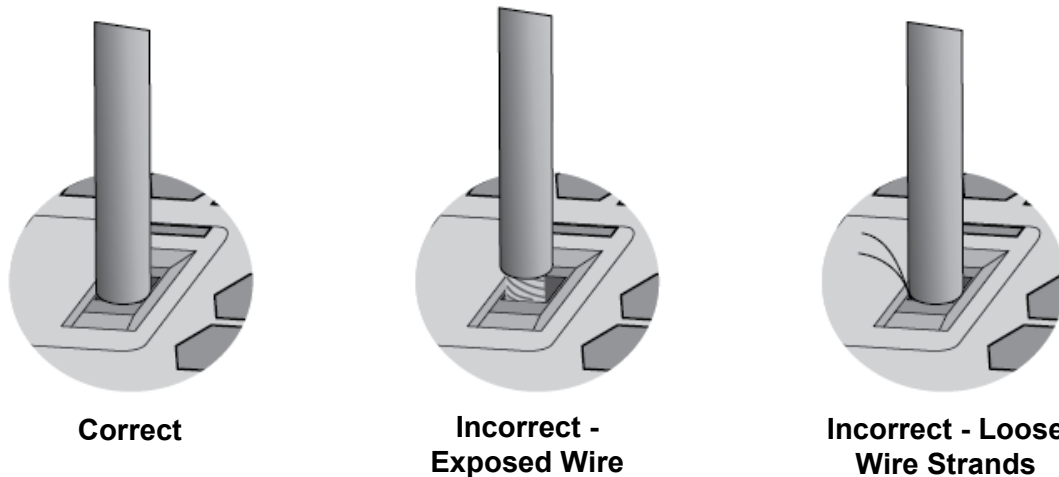

Figure 10. Verifying Wire Installation
- ❑ After installing wires, visually inspect them for exposed wires or loose wire strands. Refer to Figure 10.
4. Visually inspect the wire for exposed wire and loose strands. Refer to Figure 10 on page 47.
4. Visually inspect the wires for exposed wires and loose strands. Refer to Figure 10 on page 47.
5. Visually inspect the wires for exposed wires and loose strands. Refer to Figure 10 on page 47.